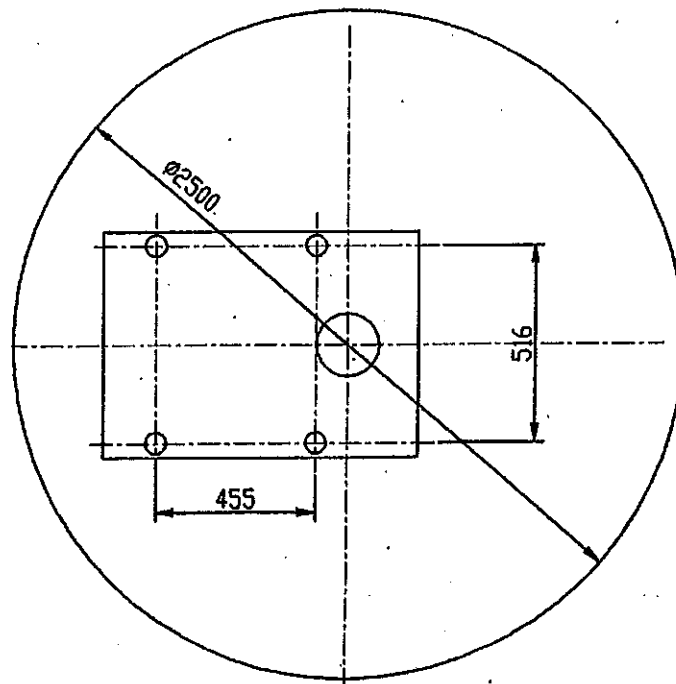

Fig. 2 Dimension of the foundation
- 4.2.1 Take the work table as Radius, go 360° around the column would be the max. area of the foundation. The diameter of the foundation is 2500mm. See Fig. 2. Customers can decide the foundation area according to their own needs.